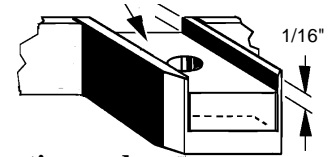

Fig.2
2. Glue a 1/16" thick by 5/16" wide by 1/2" long styrene shim to top of the bottom coupler pocket strap and exactly 1/16" from top edge of all sides of pocket. Check to be sure shim is aligned with edges and square. See Fig.2.